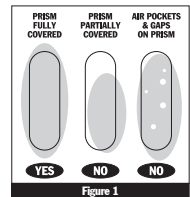

Figure 1
2. Gently close the daylight plate over the prism. The sample solution should spread as a thin, even layer in between the daylight plate and the prism. By looking through the daylight plate, ensure that the sample solution covers the ENTIRE surface of the prism. If there are bubbles and gaps or if the sample is only on one portion of the prism, the sample solution must be reapplied (Figure 1). Inaccurate readings will result if the prism is not covered correctly.
- 3 Gently close the daylight plate over the prism. The distilled water should spread as a thin, even layer in between the daylight plate and the prism. By looking through the daylight plate, ensure that the distilled water covers the ENTIRE surface of the prism. If there are bubbles and gaps or if the distilled water is only on one portion of the prism, the distilled water must be reapplied (Figure 1). Inaccurate calibrations will result if the prism is not covered correctly.